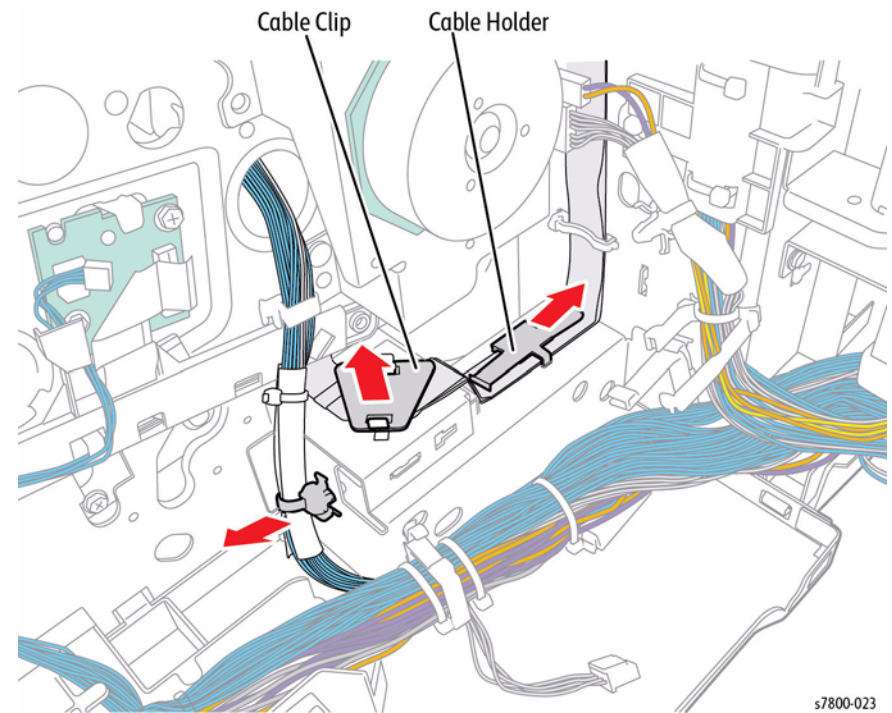

Figure 5 Removing and releasing the Cable Clamp and Clip
15. Press the clip toward the rear and lift it to remove as shown in Figure 5.